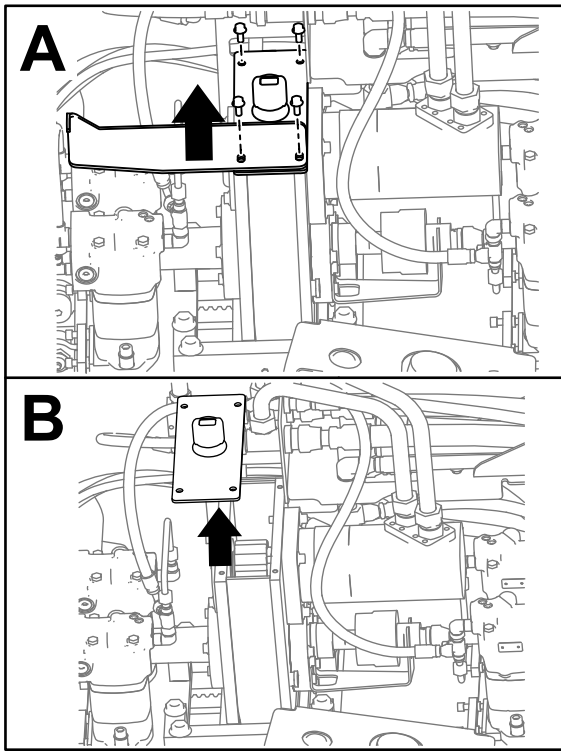

Figure 97
3. Remove the 4 bolts on the guard plate and gearbox (Box A of Figure 97).
4. Remove the guard plate (Box A of Figure 97).
5. Remove the cover on the gearbox and syphon the oil out (Box B of Figure 97).
9. Place the guard back into place and install the 2 bolts (Box A of Figure 97).
10. Install the 2 other bolts securing the lid onto the gearbox (Box A of Figure 97).